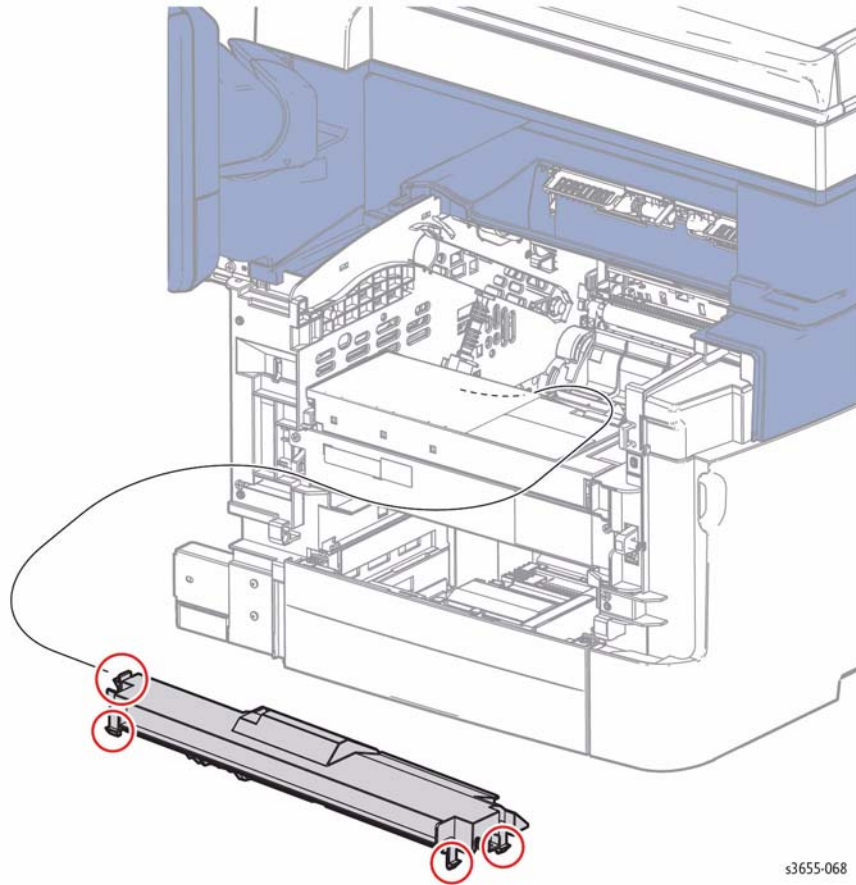

Figure 2 Remove the Top Frame Assembly
11. Refer to Figure 2 to locate and release 4 hooks that secure the Top Frame Assembly to remove it from the chassis.